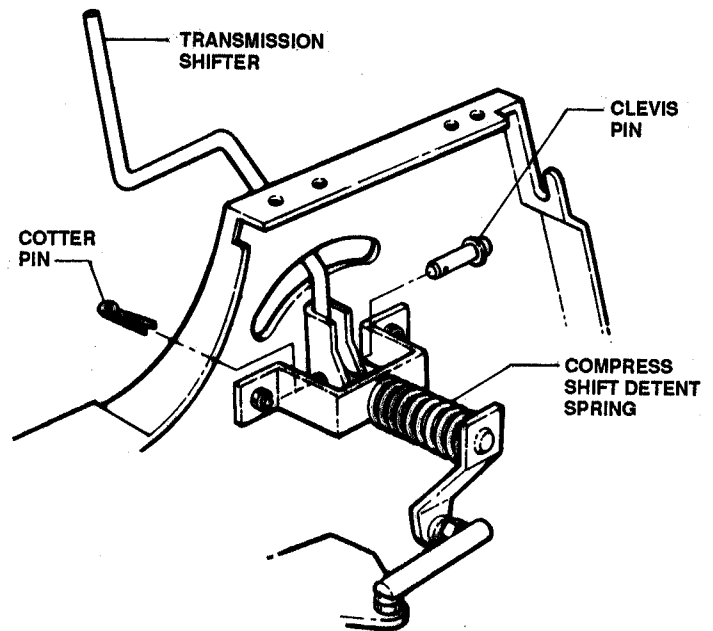

FIGURE 4.16
- B. Remove the Cotter Pin and Clevis Pin from the Shifter Arm. See Figure 4.16.